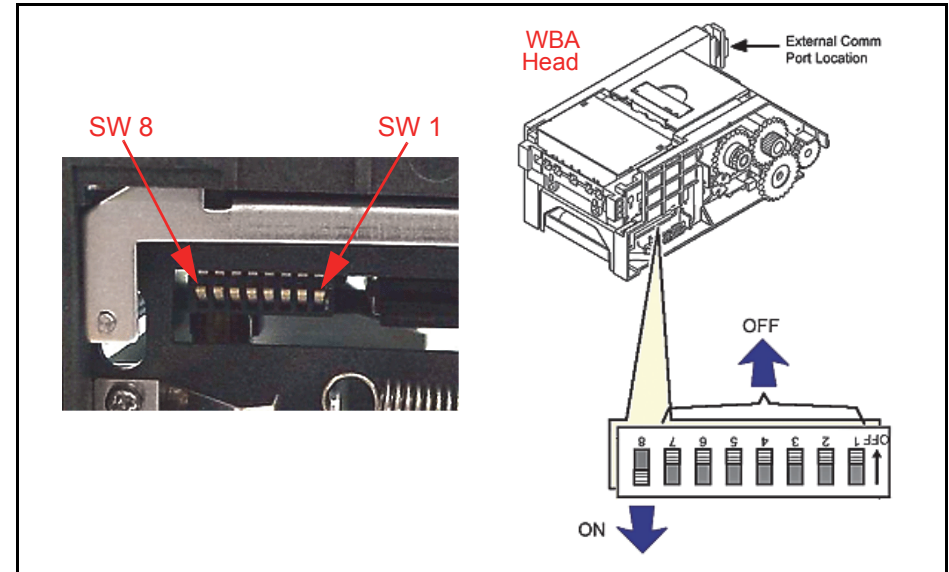

Figure 13 WBA-12 DIP Switch Position Location
1. On the WBA-12, use a small Jewelers Screwdriver to turn DIP Switches #8 ON (See Figure 13 for Switch Number Locations).